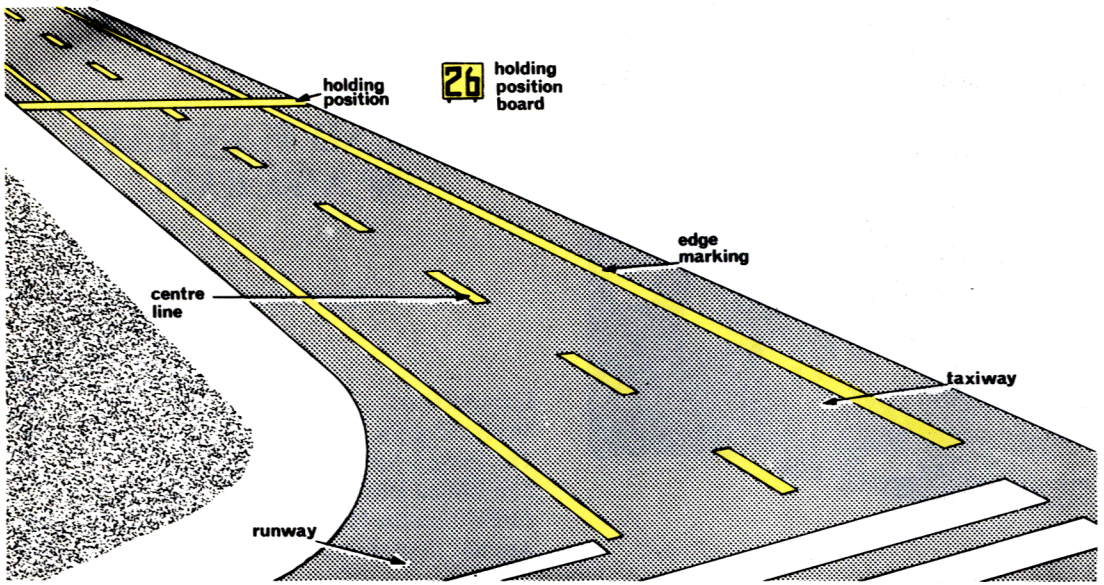

Fig. 1. Taxiway Markings
3. Perhaps the simplest way of dealing with the events which are likely to occur during an aircraft's spell on the ground, is to follow the progress of an aircraft from the moment of landing to eventual take-off, creating in the meantime situations which take in the various aspects of aircraft ground handling. To begin with, let it be assumed that the aircraft has completed its sortie, is clear of the runway, and is taxiing towards the appointed parking area. This destination could be any one of a number of paved areas on the airfield that are specially designed for the accommodation and day-to-day servicing of aircraft. On the taxiway the aircraft is still under the direction of Air Traffic Control who not only tell the pilot where he is to go but also the precise route he is to take. As he proceeds, the pilot is guided by lines marked on the taxiway; the centre of the track is usually indicated by a broken yellow line whilst the edges of the taxiway, if not clearly defined, may be highlighted by continuous yellow lines (Fig. 1). At night the lines give way to coloured lights, green for the centre line, and blue or amber for the taxiway edges.